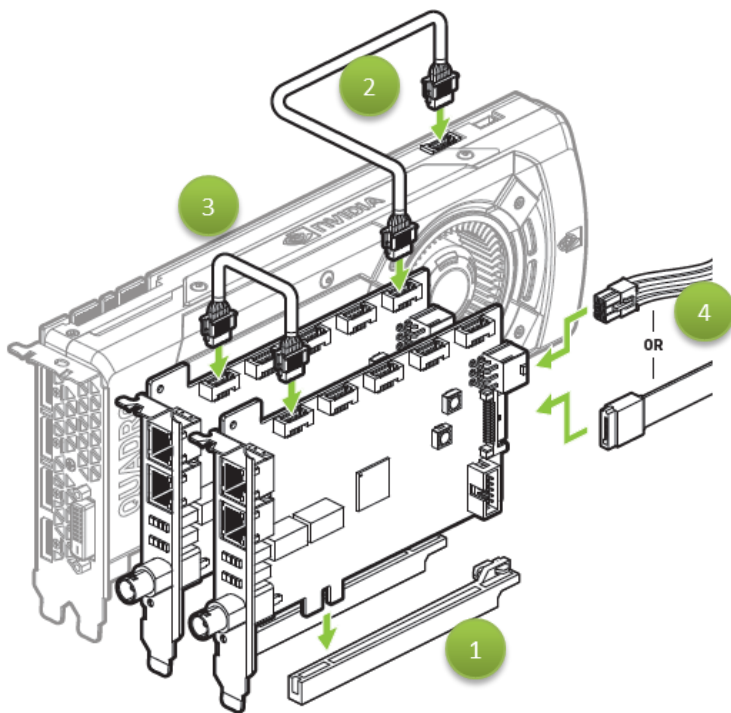

Figure 2. Installing and Connecting the Quadro Sync II Card
Use the following steps and Figure 2 to install the Quadro Sync II Card
2. Connect up-to four NVIDIA RTX/Quadro cards to the Quadro Sync II card GPU connectors (2 in Figure 2) using the included cables.
3. Connect power to the Quadro Sync II card using either a 6-pin PCIe or SATA power cable (4 in Figure 2).
5. Connect up-to four Quadro cards to the Quadro Sync II card GPU connectors (2 in Figure 2) using the included cables.
6. Connect power to the second Quadro Sync II card using either a 6-pin PCIe or SATA power cable (4 in Figure 2).
7. Connect one Quadro Sync II card to the other Quadro Sync II card (3 in Figure 2) using the included cables between the Sync II connectors.